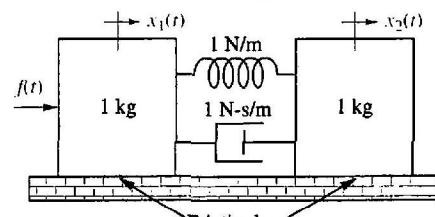

FIGURE P2.10
24. Find the transfer function, $G(s) = X_2(s)/F(s)$, for the translational mechanical network shown in Figure P2.10. [Section: 2.5]